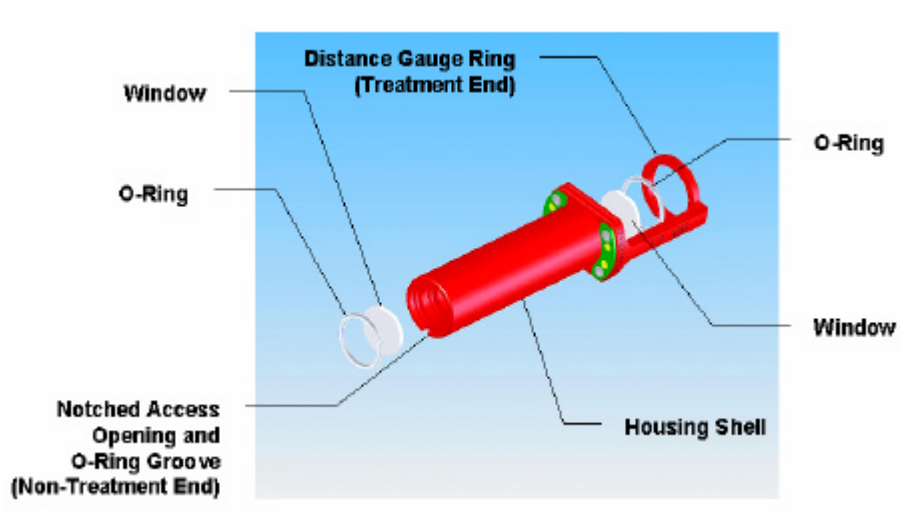
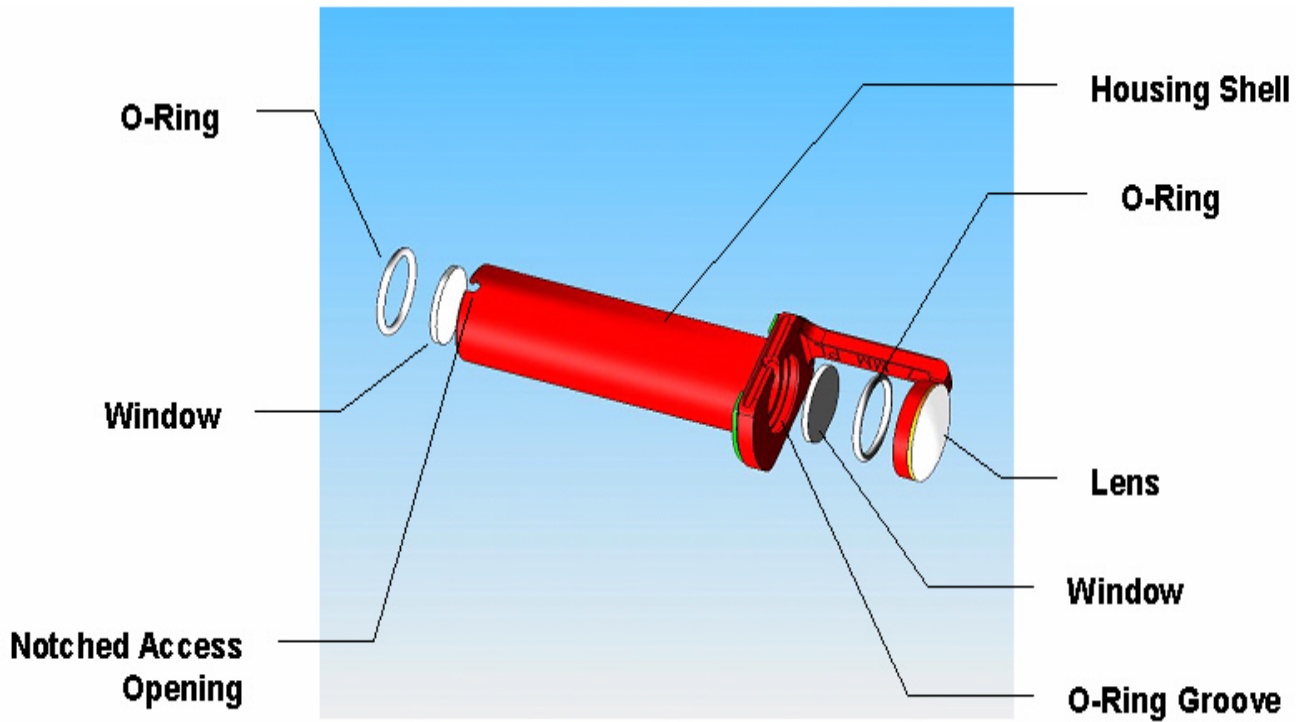

Figure 6.2: Smart Gauge Windows
Figure 6.3: Pigmented Lesion Smart Distance Gauge Windows and Lens
Each Smart distance gauge assembly contains two windows to protect the delivery system optics and its internal lenses (Figure 6.2). In addition to these windows, the Pigmented Lesion Smart distance gauge also contains a removable lens in the gauge ring housing (Figure 6.3) where direct contact with the skin treatment surface occurs frequently.
3. The windows are located on both ends of the distance gauge (treatment and non-treatment end). They are each held in grooves by O-rings. A notched access opening near the edge of the grooves on both ends allows easy removal of the O-rings. (Figure 6.2 and Figure 6.3)